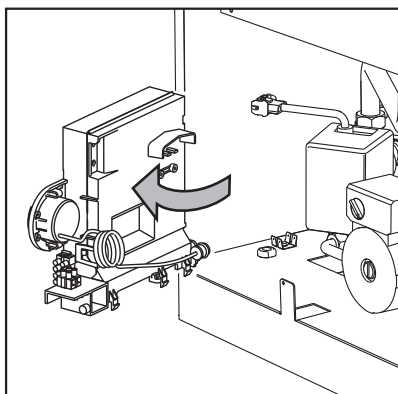

fig. 23
2. Undo the screw and rotate the control panel (see fig. 23).